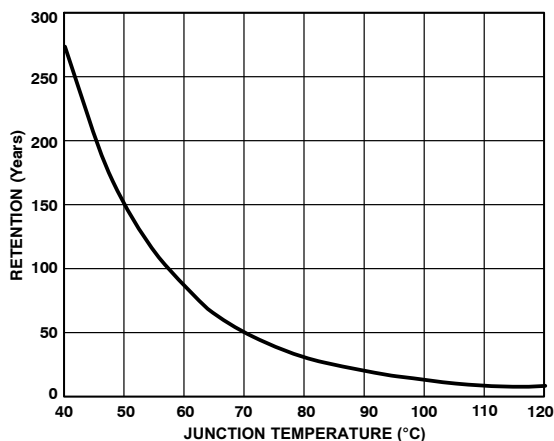

Figure 15. Typical EEPROM Memory Retention
10. Retention lifetime equivalent at junction temperature ( $T_J$ ) =  $55^\circ\text{C}$  as per JEDEC Std. 22 method A117. Retention lifetime based on activation energy of 0.6 V derates with junction temperature as shown in Figure 15.
Retention quantifies the ability of the memory to retain its programmed data over time. The EEPROM in the ADM1026 has been qualified in accordance with the formal JEDEC Retention Lifetime Specification (A117) at a specific junction temperature ( $T_J = 55^\circ\text{C}$ ) to guarantee a minimum of 10 years retention time. As part of this qualification procedure, the EEPROM memory is cycled to its specified endurance limit described above before data retention is characterized. This means that the EEPROM memory is guaranteed to retain its data for its full specified retention lifetime every time the EEPROM is reprogrammed. Note that retention lifetime based on an activation energy of 0.6 V derates with  $T_J$ , as shown in Figure 15.